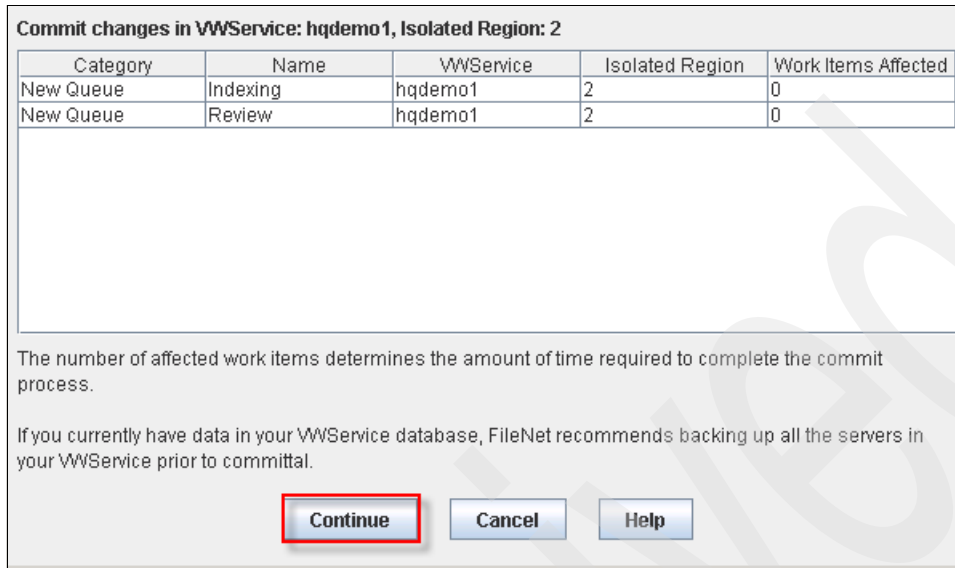

Figure 7-35 Commit Changes
9. In the Commit changes panel (Figure 7-35), click **Continue** and wait for the database table update to finish.